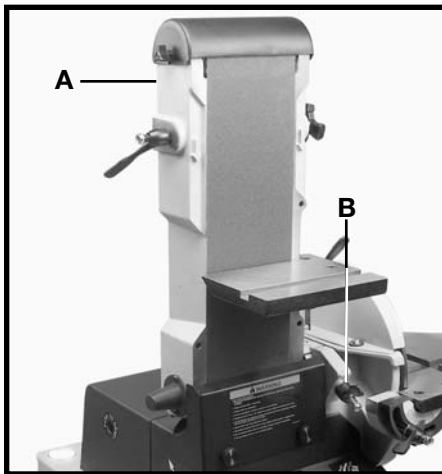
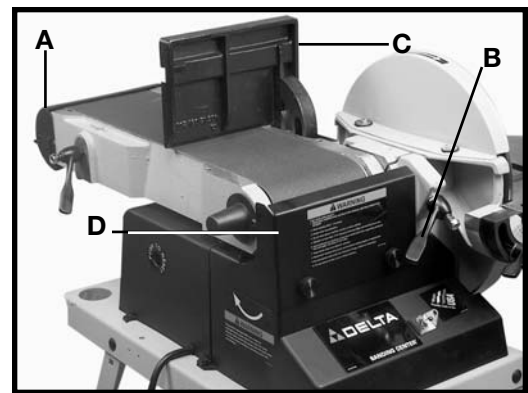

Fig. 27
Fig. 28
1. The sanding arm (A) can be used in the vertical position (Fig. 27), the horizontal position (Fig. 28), or any angle in between. Loosen the lock handle (B), position the arm (A) to the desired angle, and tighten the lock handle (B).
2. The top idler pulley cover (A) Fig. 28 can be rotated downward to clear the workpiece when sanding in the horizontal position. For a long workpiece, lower the deflector plate (D) to clear the workpiece. Raise the deflector plate (B) to deflect saw dust when sanding a short workpiece.
NOTE: With the sanding arm (A) in the horizontal position (Fig. 28), use the table (C) or the accessory backstop to support the work.